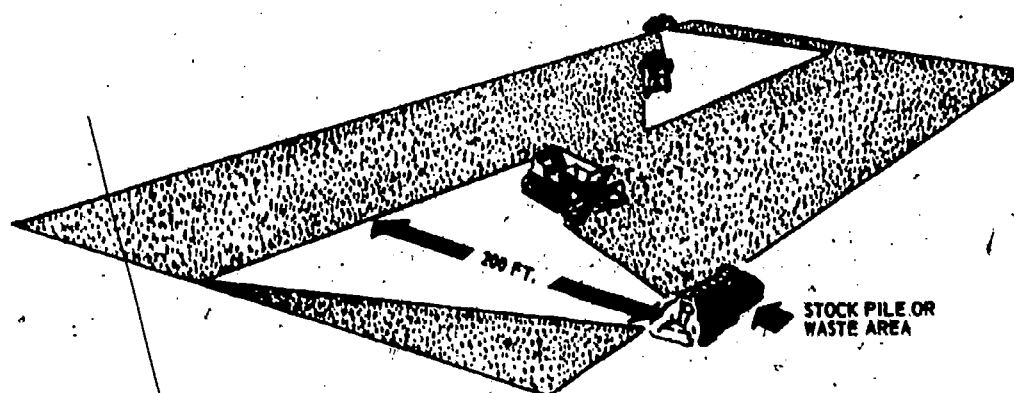

Fig 3-3. Stripping.
- (1) Definition. Stripping is the removal of objectionable top soil, sod, rocks, and any hard substances embedded in the ground prior to excavation (fig 3-3). Stripping may either follow or be done together with clearing and grubbing. Actual earthmoving begins with stripping; surface soil and rocks are removed from the area to be excavated. Deeply embedded rocks and large boulders may have to be blasted before they can be removed. The material removed by stripping is called spoil. Unless otherwise directed, you should dump spoil along the area to be excavated, within range of the earthmoving equipment. If the spoil will not be put to use, such as turbing or finishing a road or runway, it should be wasted along the edges of the project or in stockpiles depending on the situation.
- (2) Equipment used. The equipment used most in stripping is the dozer. The use of dozers in removing trees was mentioned above. If the haul distance is over 300 feet, it is more efficient to strip with a scraper. A scraper may be used also on fine soils where shallow stripping is desired. A motor grader is used mainly for shaping and finishing a stripped surface. It is adaptable also for ditching, for sidecasting, and for sloping banks. Grading and related operations will be described in connection with drainage systems later.
- (3) Procedures. When you check the job and terrain, you should learn where the spoil is to be disposed of. Remember that its location may affect the camouflage plan. Most military construction will be performed on foreign soil and you should practice now in stripping and disposing of the spoil without damaging the usefulness of any more of an area than is absolutely necessary. Unless necessary, you would not dump the spoil from a road site on some farmer's crops. However, the mission may dictate that you do the job as quickly as possible. A dozer or scraper is usually used to cut to a depth that will remove the objectional material and then push it to the desired location. An angled dozer may be used to windrow the material along the sides of a road clearing so that it can be used later on road shoulders. The depth of the material and the width of the area will determine the method to use and the number of passes required. For example, the method illustrated in figure 3-3 may be the fastest method to use for a particular type job, but if the material was to be hauled for long distances, it should be stockpiled and a scoop loader and trucks or scrapers should be used. The Drott 4-in-1 can be used to cut and load on trucks or to load from stockpiles.